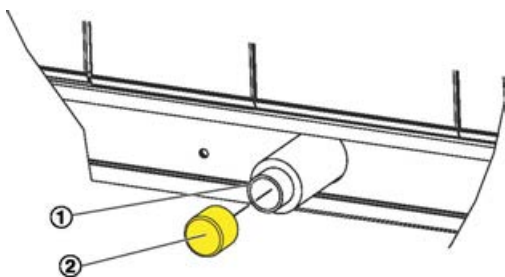

Fig. 30: Condensate drain
- 2 ▶ Remove the protective cap(s) (Fig. 30 /2) from the drain (Fig. 30 /1) of the condensate drip tray.
- 4 ▶ Connect the drain traps to the condensate drains (Fig. 30 /1).